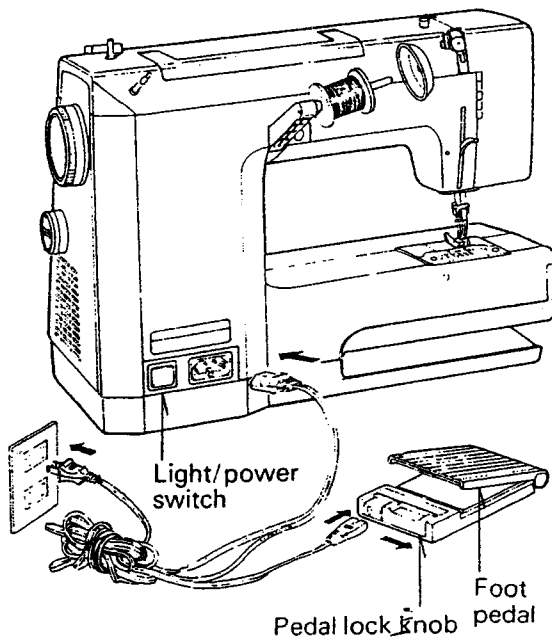

Fig. 2
2. Slide pedal lock knob to the right and the foot pedal will pop up to its operating position. Push foot control plug into the cord receptacle on the foot control. (Fig. 2)
3. Push machine plug into the cord receptacle at the rear side of the machine. Then connect power-line plug into any 110-120 volt A.C. wall outlet. (Fig. 2)